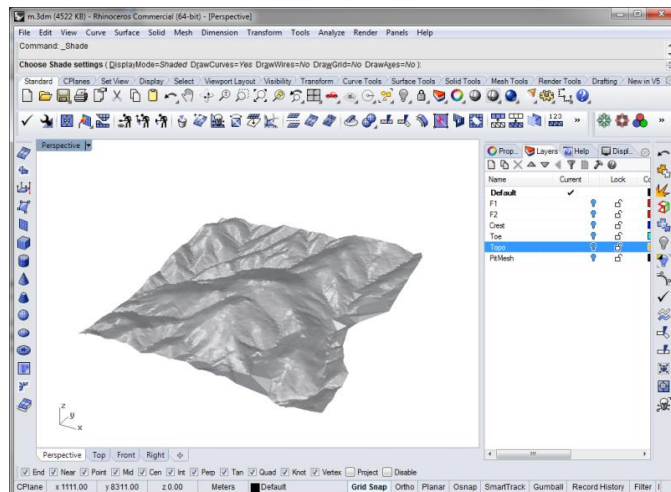

Figure 146: Shaded perspective view of mesh surface on Default layer.
3. **Edit|Select Objects|Points**, followed by **_MeshPatch**. **<ENTER>** to accept the command defaults, followed by another **<ENTER>** to build a mesh representing the topography. **Edit|Select Objects|Points**, followed by **<DELETE>** to get rid of the point. Hide **Topo** in the **Layers** Panel. **Shade** icon and select **Display Mode=Shaded** (Figure 146).